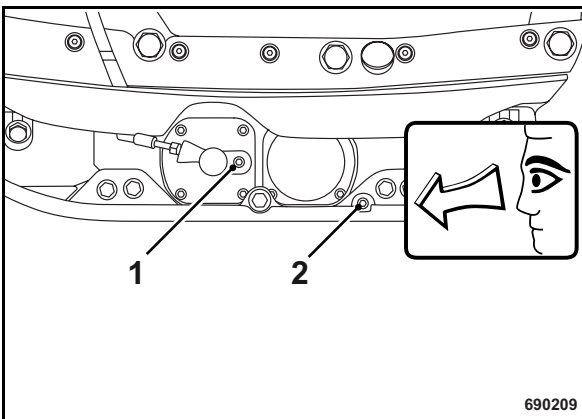

Fig. 67
- Stand the machine on level ground and check the oil level (Fig. 67).